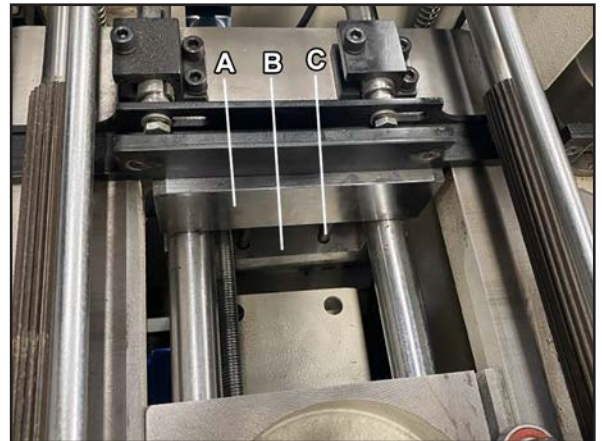

**Figure 49.** Workpiece bridge installed (shown from above).
- b. To install the bridge, remove the cap screws (C), install the workpiece bridge (A) and fixing base (B) as shown in **Figure 49**, then install the cap screws to secure.